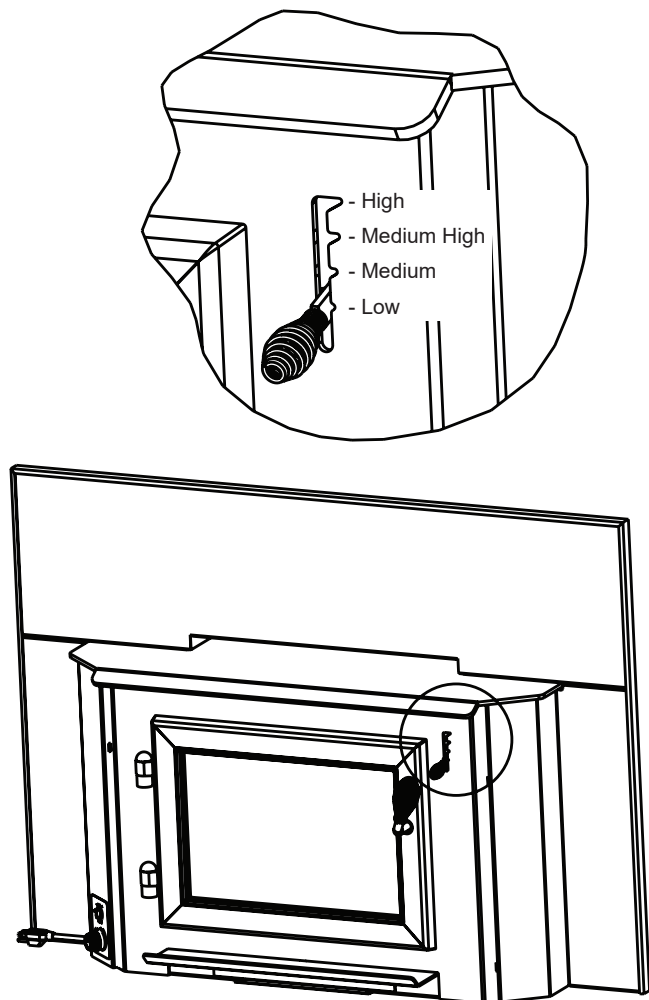

Figure 12.1 - Burn Rate Air Control
The next stage of burning, the secondary stage, is the period when the wood gives off flammable gases which burn above the fuel with bright flames. During this stage of burning it is very important that the flames be maintained and not allowed to go out. This will ensure the cleanest possible fire. If the flames tend to go out, it is set too low for your burning conditions. The air control located at the upper right hand corner is used to adjust for burn rates. This is called the Burn Rate Air Control (**Figure 12.1 on page 12**).
- When the control is raised all the way up it is on the High setting and when pushed all the way down it is on the Low setting (**Figure 12.1**).
1. Follow the instructions below for each burn rate for the Burn Rate Air Control (**Figure 12.1**).